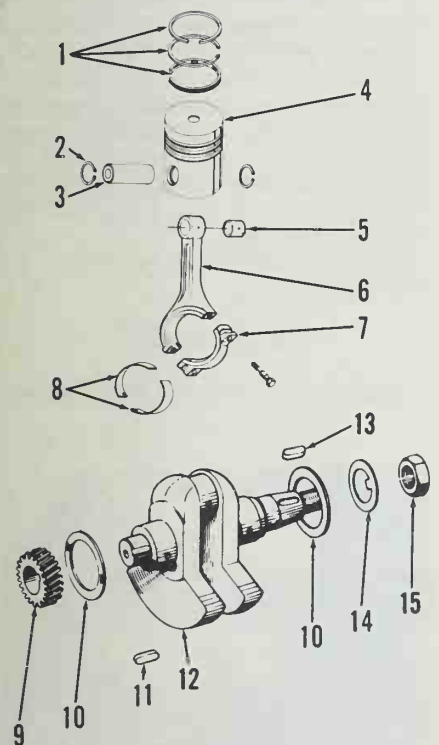

Fig. KR1-7—Exploded view of crankshaft assembly.
R&R AND OVERHAUL. The cylinder is removable after removing cylinder head as previously outlined. After cylinder is removed, cover crankcase opening to prevent entry of foreign material. Detach snap rings (2—Fig. KR1-7) then use a suitable puller to withdraw piston pin (3). Remove piston from connecting rod.